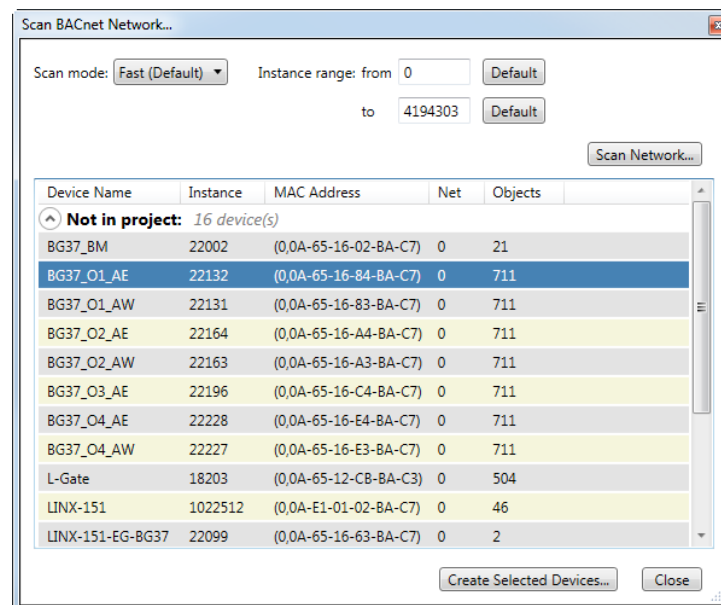

Figure 67: BACnet Network Scan
1. Select the folder **Network/Devices** or a subfolder and choose **Scan BACnet Network** from the context menu. This opens the BACnet network scan dialog as shown in Figure 67.